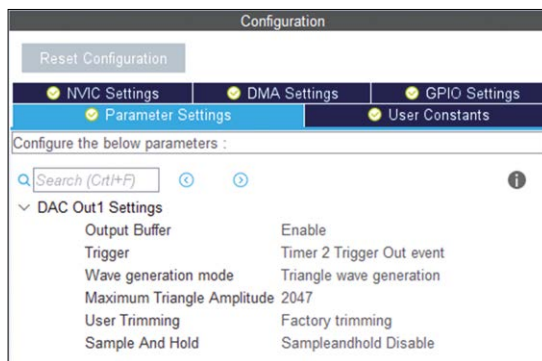

Figure 9.19: DAC parameter Settings.
- In **Parameter Settings**, enable the **Output Buffer**, set **Trigger** to **Timer 2 Trigger Out event**, set **Wave generation mode** to **Triangle wave generation**, set the **Maximum Triangle Amplitude** to **2047** (1.65 V), see Figure 9.19.